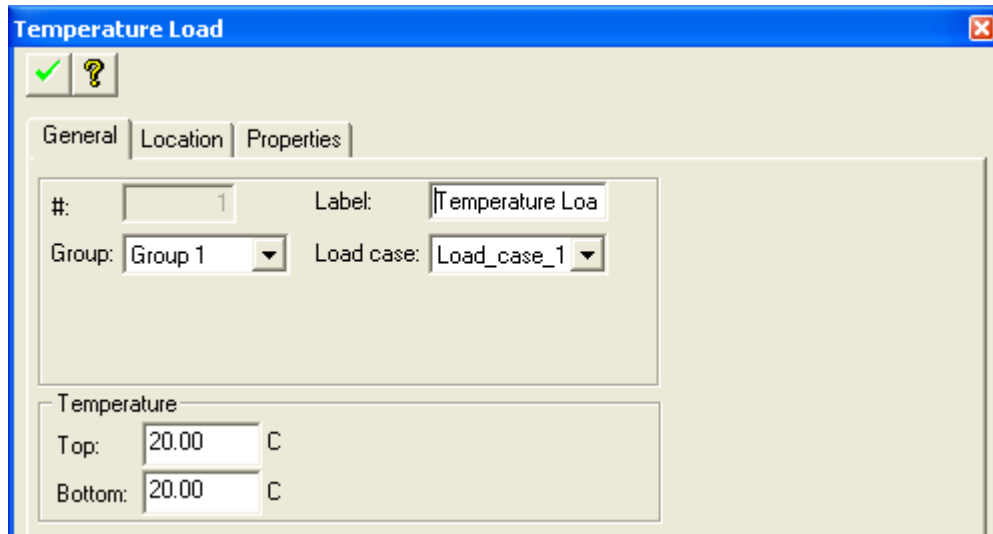

FIGURE 2.20-4 TEMPERATURE LOAD PROPERTY BOX
- To edit temperature load open its property box (**Fig. 2.20-4**).